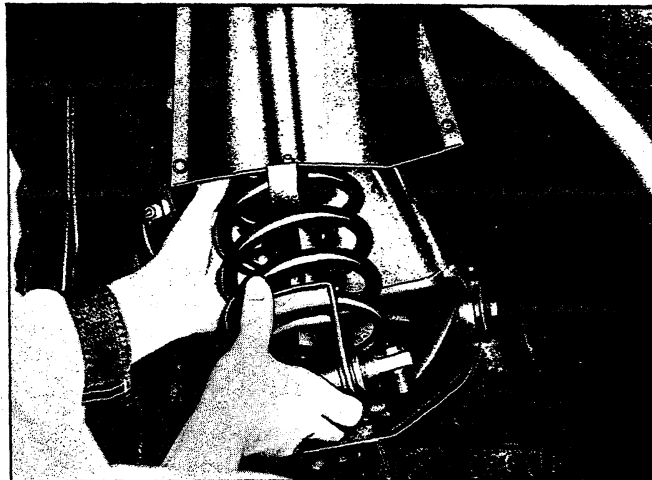

Fig. 25 - Removing Spring and Seal Assembly - Chevy II
6. Remove lower spring seat retaining nuts, lift spring and seat assembly from control arm and guide it down and out through fender skirt (fig. 25).